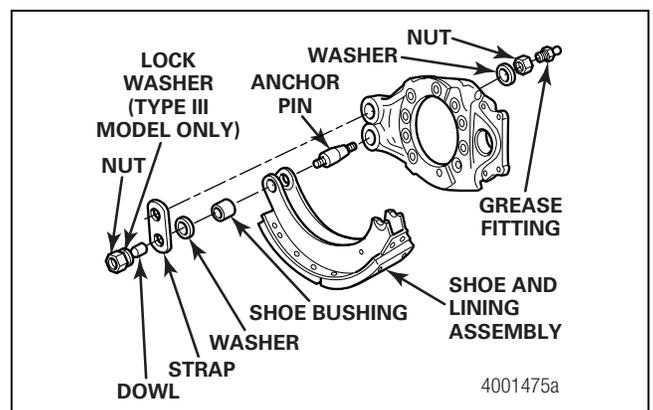

Figure 5.5
- B. From the shoe side of the spider, remove the nuts, lock washers if equipped, and dowels from the anchor pins. Figure 5.5.